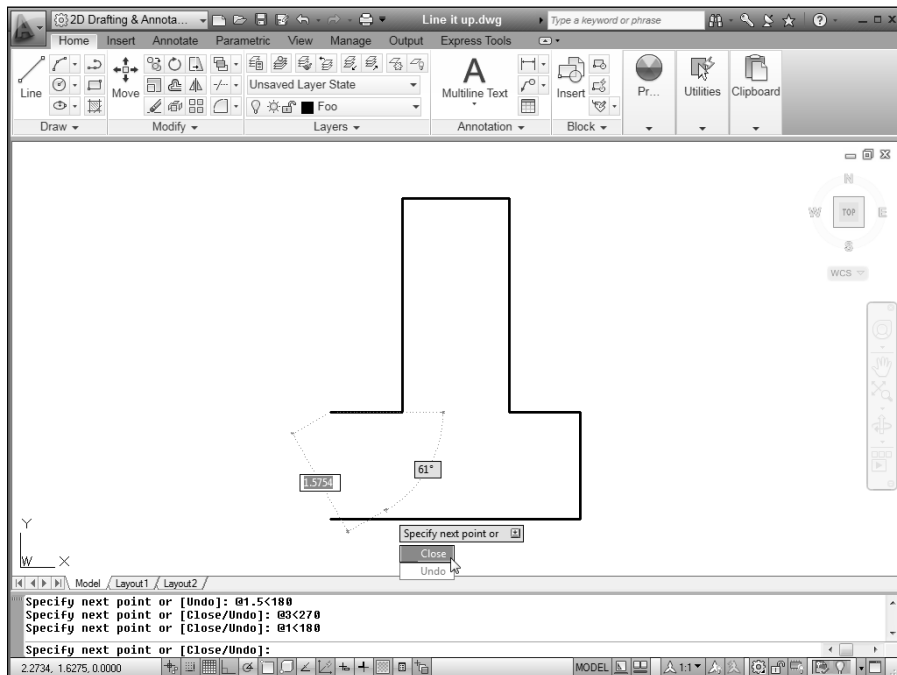

Figure 8-2:
- Type C and press Enter or press the down arrow on your keyboard and choose Close from the menu (as shown in Figure 8-2) to close the figure.